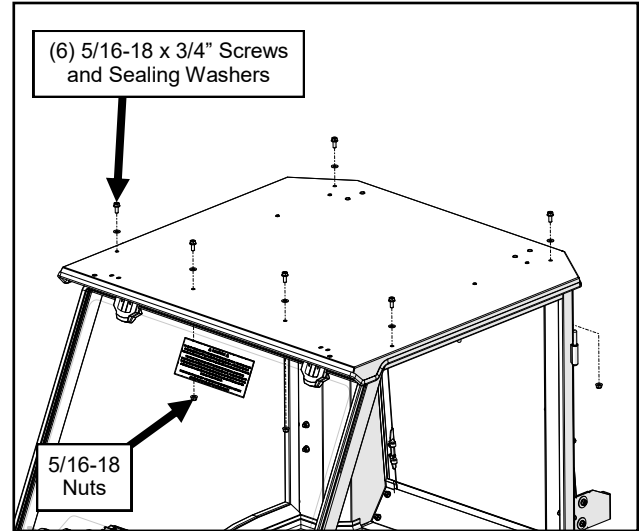

Fig. 10.1 (Install Roof)
- 10.1 With assistance, set the roof on top of the cab. Loosely secure with sealing washers on the (6) screws through the top of the roof. See Figure 10.1.